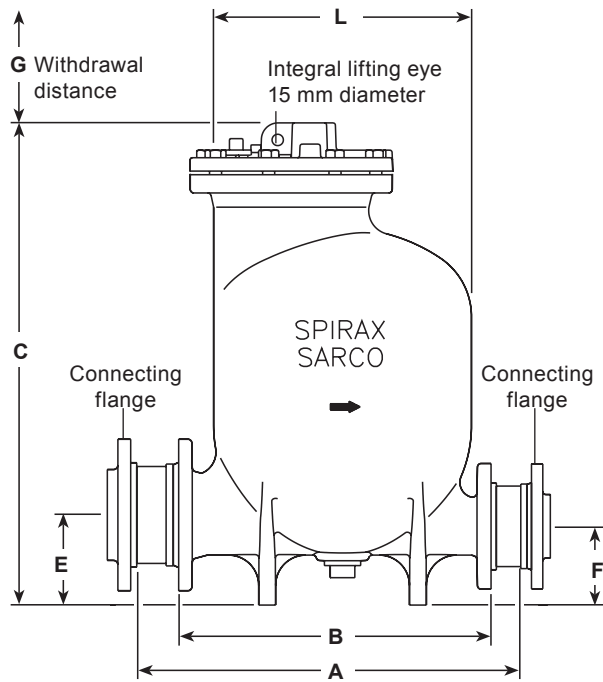

Fig. 2 DN80 x DN50 MFP14 shown
4. Connect the operating medium (steam, air or gas) supply to the motive supply inlet in the cover (see Fig. 2, page 11). Supply main should have a strainer and a steam trap (steam service) installed upstream of the supply inlet. The steam trap discharge should be piped to the receiver or reservoir piping ahead of the pump.